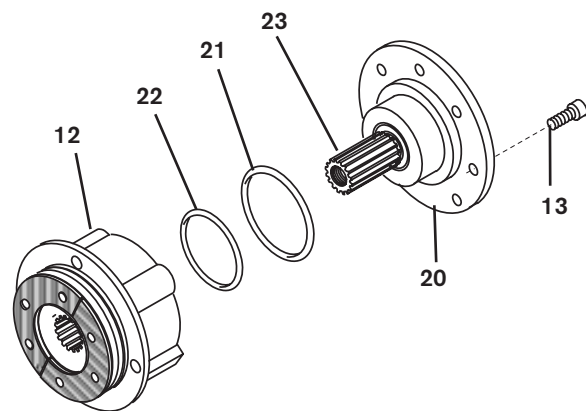

FIGURE 16
2. Remove the four remaining Socket Head Cap Screws (Item 13) and slide the Male Pilot (Item 20), Stub Shaft (Item 23), and the two Ball Bearings (Item 19) out of the Air Chamber (Item 12) (See Figure 16).
3. Remove the old O-ring Seals (Items 21 and 22) from the Male Pilot (Item 20) (See Figure 16).